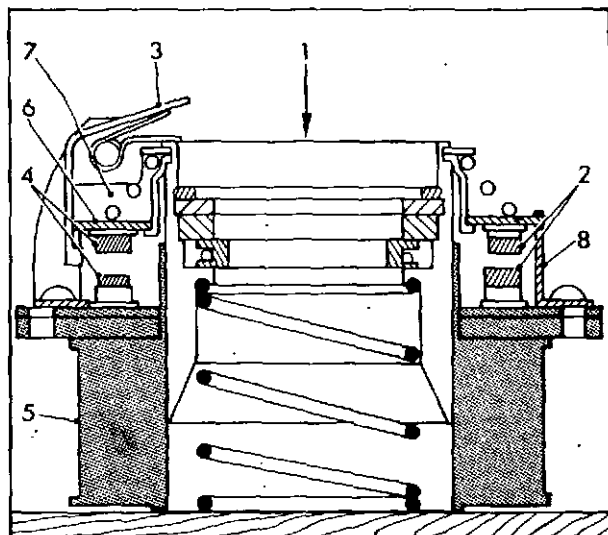

Fig. 13 Checking switch unit operation
To check that the switch is operating correctly, stand the plunger return spring on the bench and place the solenoid switch unit over it, coil downwards, as shown in fig. 13. Apply downward pressure to the top of the plunger (1) and check that the first stage contacts (2) close.